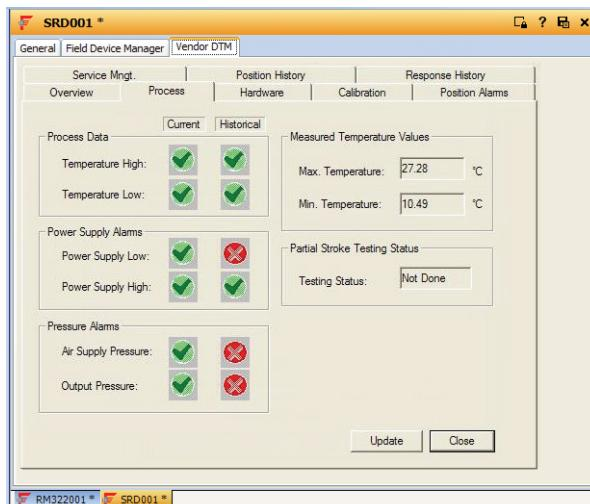

Figure 23. Valve Process and Partial Stroke Status
- ▶ Partial stroke testing of valves in ESD applications can indicate if the valve will be able to operate on demand (Figure 23).